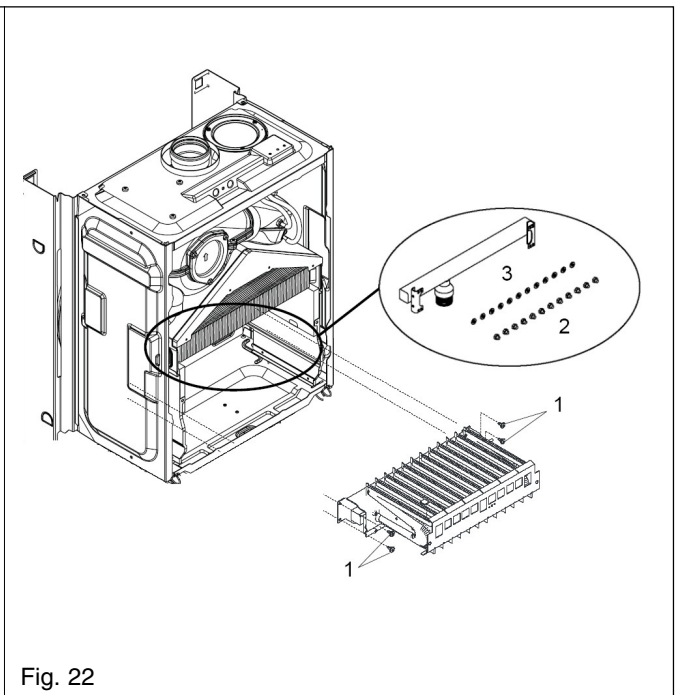

Fig. 22
**FIG. 22:** locate and remove the four screws which secure the burner in position (1), gently ease the burner out of its location. Once the burner has been removed, the electrode retaining screw can be removed. Locate the burner injectors (2) and remove (if necessary). Replace in the reverse order. **Please note**, the injector sealing washers (3) must be replaced if the injectors have been removed, ensure all seals are in good condition, taking care to ensure they are replaced correctly. Replace in the reverse order.